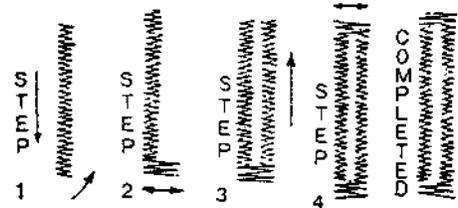

Fig. 24
3. Lower needle carefully into the mark on fabric indicating the beginning of buttonhole. Stitch to the mark for the end of the button hole, step 1, Fig. 24. Stop machine with needle in fabric at right side of stitching.
6. Turn drop feed dial to "DOWN" position and set zigzag width control as far to the right as possible. Take five or six stitches to form bar tack (Step 2, Fig. 24).